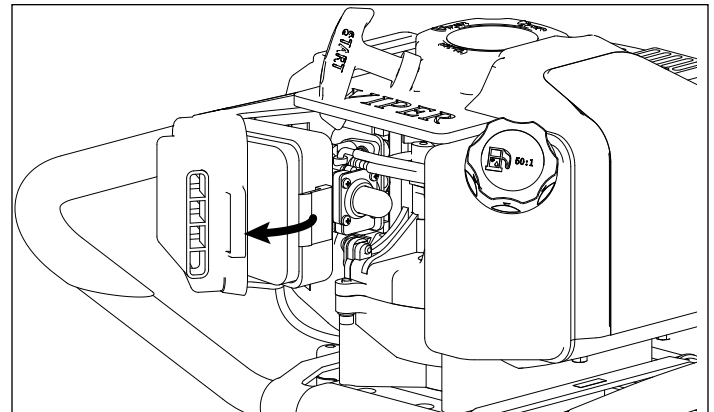

Figure 5
3. Once the latch tabs are released, remove the air filter cover by rotating the cover away from the engine. **SEE FIGURE 5.**